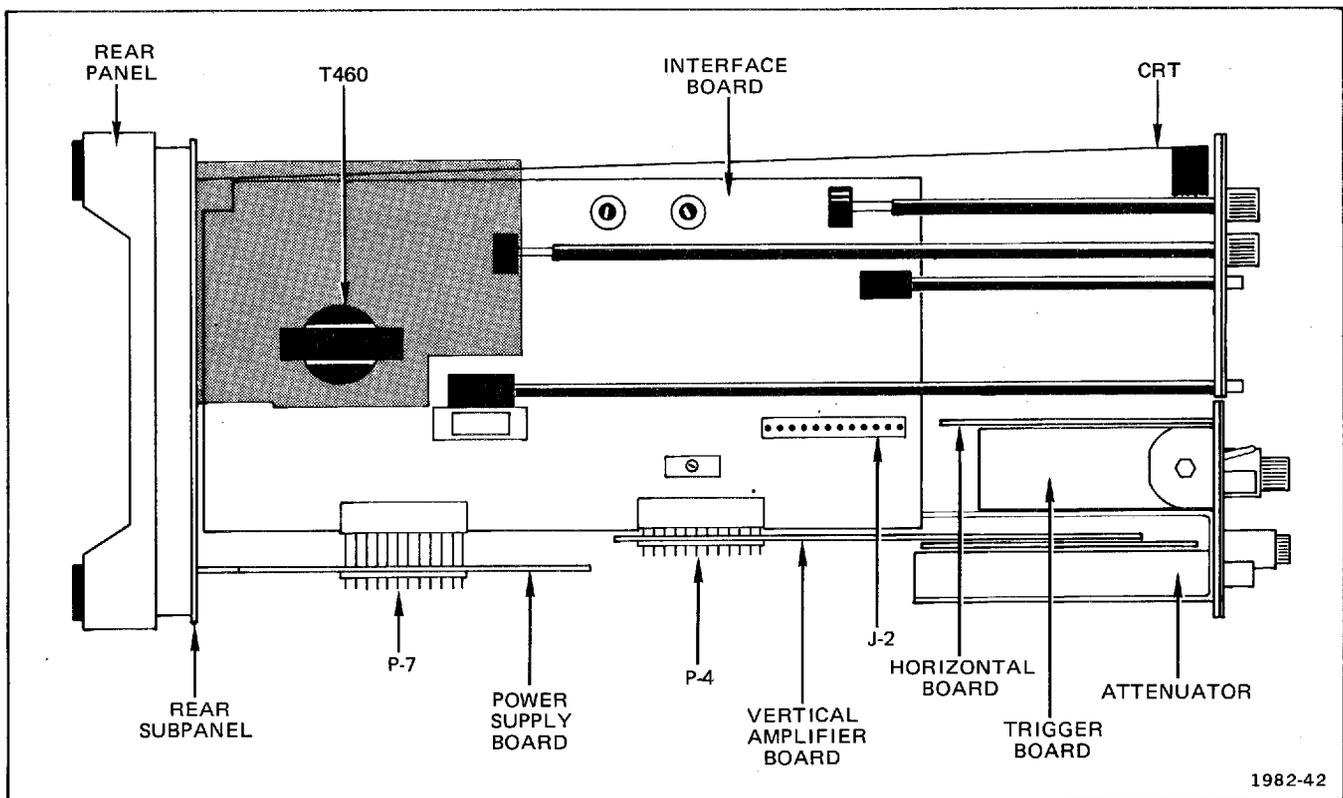

Fig. 5-7. T921 and T922 circuit board locations.
2. Disconnect P4 (see Fig. 5-7) from the Interface board by lifting the entire Vertical Amplifier. Be careful not to bend the pins.
4. Remove J2 (see Fig. 5-7) from the Interface board by pulling the entire Time Base toward the right side of the instrument. Be careful not to bend the pins.
3. Disconnect P7 from the Interface board by lifting the Power Supply board and transformer out. (see Fig. 5-7).